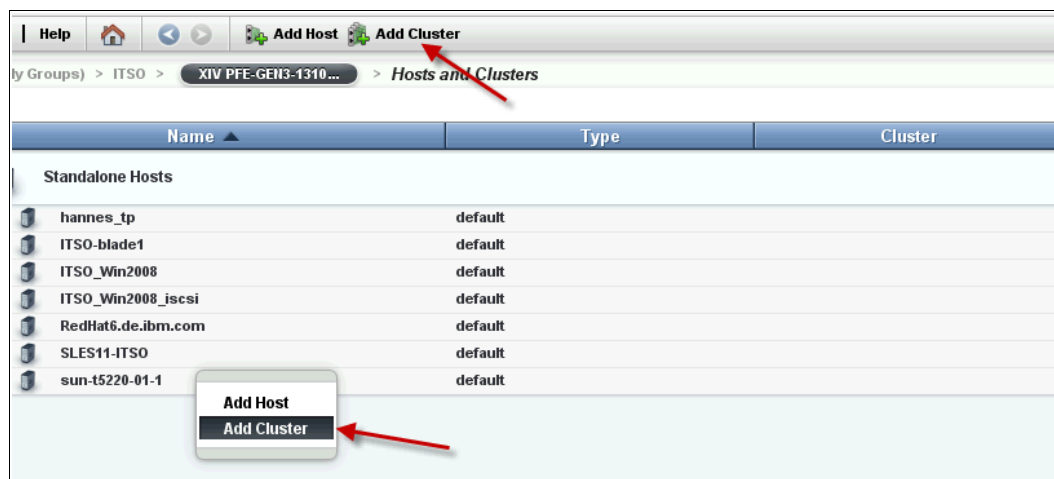

Figure 11-7 Creating a cluster group
1. Create a cluster group (Figure 11-7).